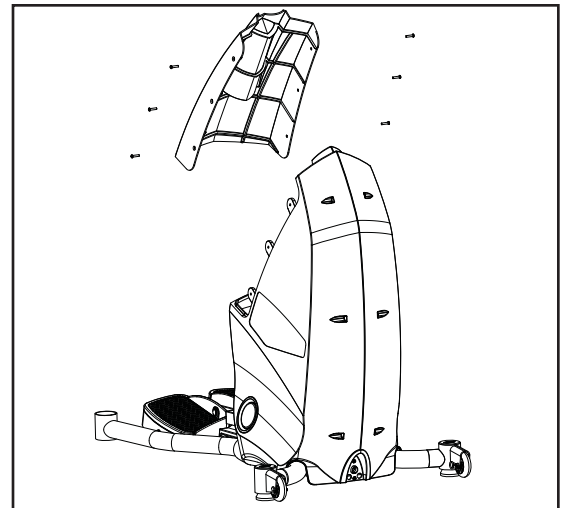

Figure 7
**5-1** Remove the 6 Phillips screws from the Mid-cover, and place to the side (see Figure 7).